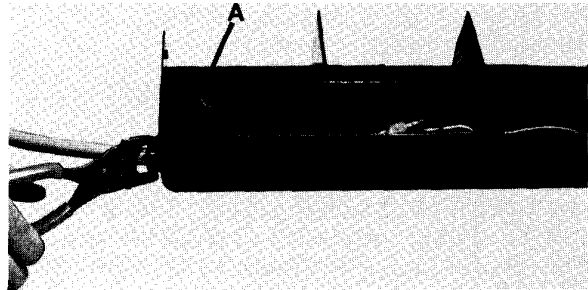

Fig. 33
- 2) Disconnect cord by pulling apart the (6) quick connect wire connectors and removing the (1) #10-24x $\frac{3}{8}$ " self-tapping screw, Item A, Fig. 33.
- 3) Grasp strain relief bushing with hand pliers (See Special Tools on Page 35), squeeze tab on bushing, and pull bushing out of hole in footswitch. See Fig. 33.
- 4) Position strain relief bushing on the cord, close the bushing, grasp bushing with hand pliers squeezing the tab on the bushing, and push bushing into the hole in the footswitch. See Fig. 33.
- 5) Connect cord to footswitch wires by mating the (6) quick connect wire connectors, matching the wire colors on the cord wires and footswitch wires.
- 6) Install the (1) #10-24x $\frac{3}{8}$ " self-tapping screw, Item A, Fig. 33 through the green grounding wire terminal.
- 7) Place cover on footswitch, align holes, and install (2) #10-32x $\frac{3}{8}$ " machine screws, one on each end of footswitch, and (3) #10-24x $\frac{3}{8}$ " self-tapping screws along the back of the footswitch.